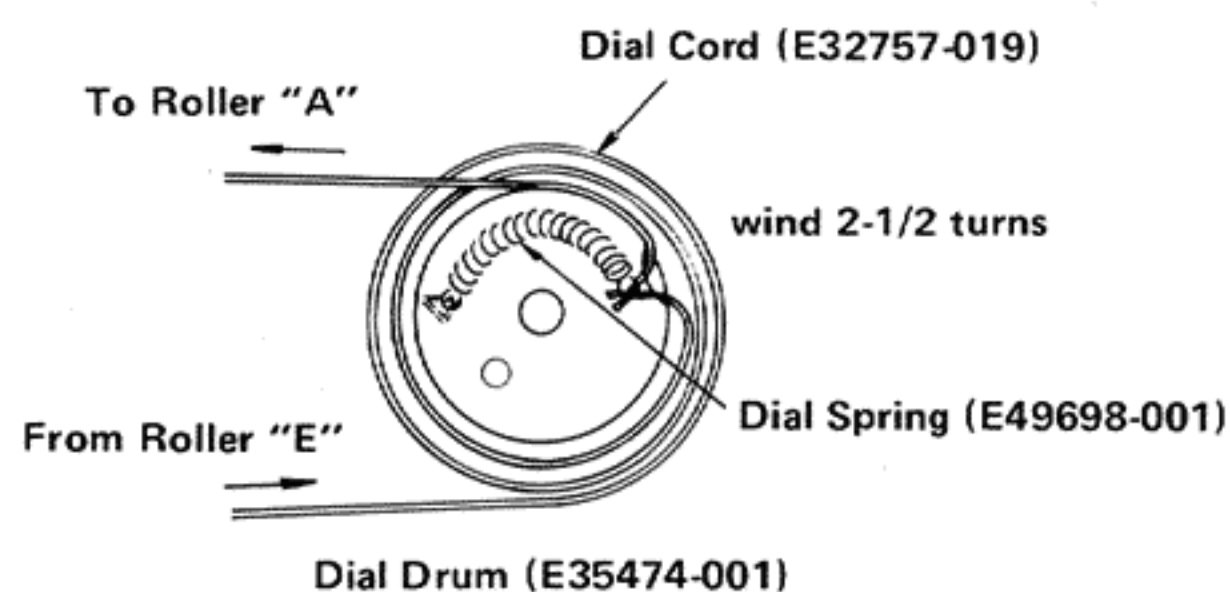

Fig. 14
- (1) Remove a heatsink and an Audio Amp. P.C.Board Ass'y (TAP-256C), see page 8.
- (2) Remove the dial pointer and old dial cord.
- (3) Tie end of new dial cord to one end of dial spring, connect other end of dial spring of bottom right eye inside dial drum, see Fig. 14.
- (4) Rotate the tuning capacitor dial drum to it's maximum counterclockwise.
- (5) Run the dial cord through the slot in the rim of dial drum.
- (6) Guide dial cord under and around rollers A, B, C and D. Keep the dial cord taut during this procedures.
- (8) Guide dial cord around roller E.
- (9) Guide dial cord under and around the dial drum and wind 2-1/2 turns counterclockwise, see Fig. 14.
- (10) Turn the tuning shaft to rotate the dial drum fully counterclockwise and fully clockwise to distribute the tensioning along the dial cord.